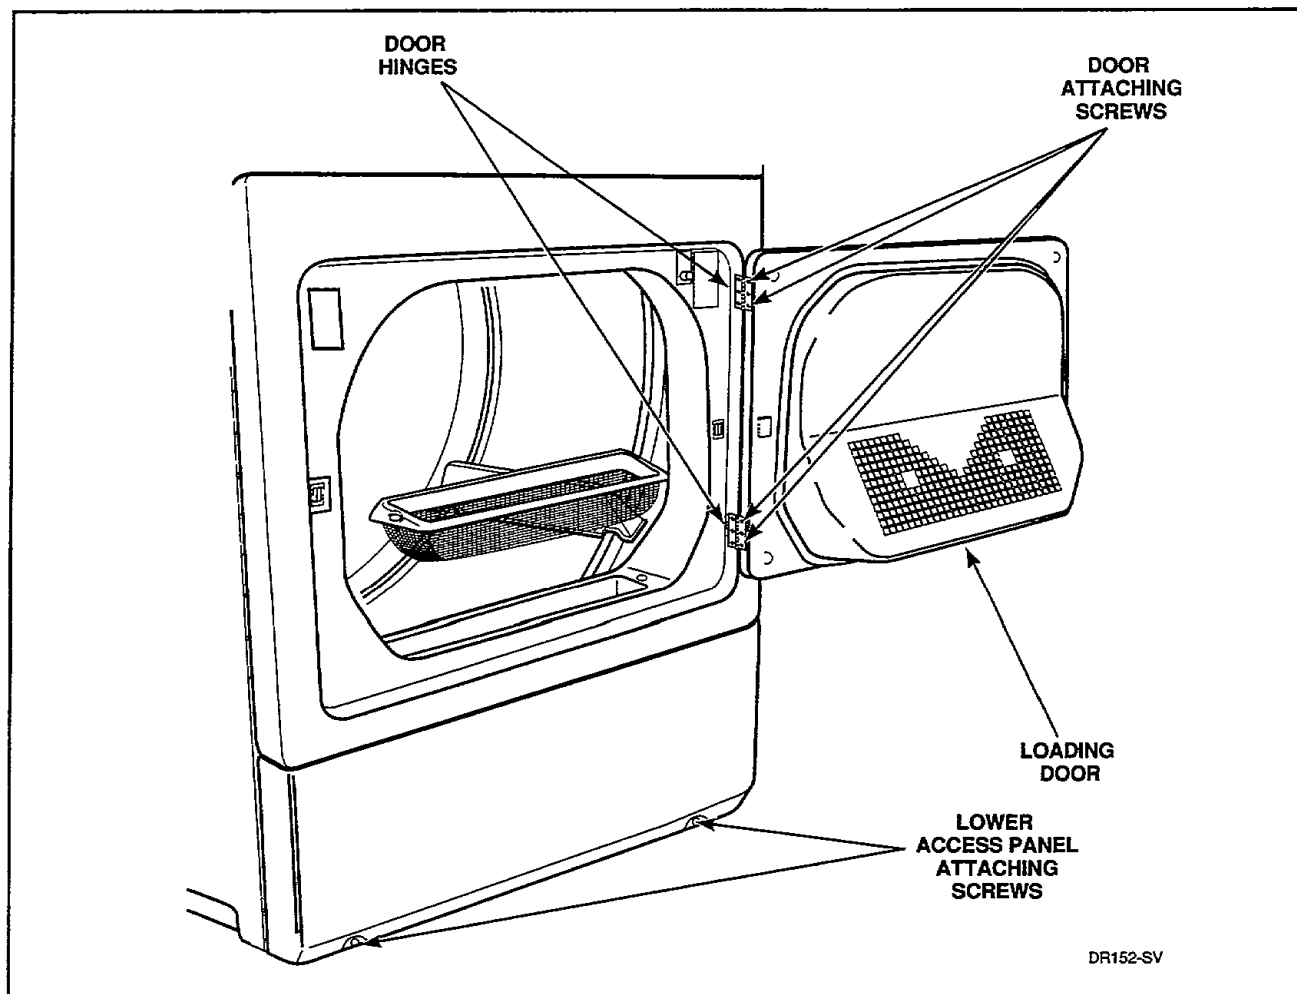
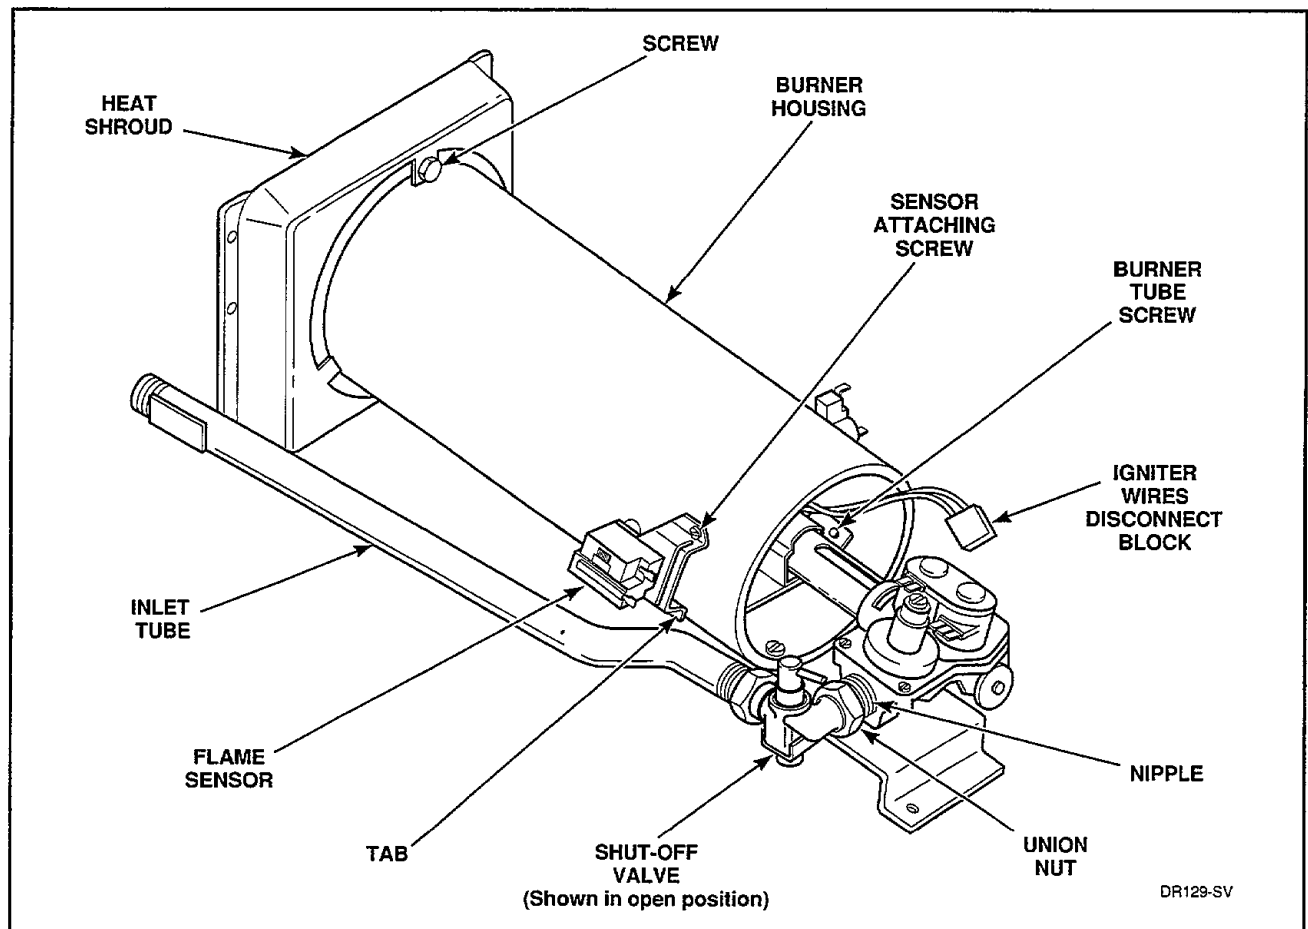

Figure 20
Figure 21
- Open loading door and, while supporting door, remove four screws holding door assembly and hinges to front panel, *Figure 20*.
- Remove four screws holding hinges to loading door, *Figure 20*.
- (1) While supporting the lower access panel, remove two screws from bottom edge of lower access panel, *Figure 20*.
- (2) Gently lower the access panel to disengage guide lugs from bottom edge of front panel.
- (3) Close gas shut-off valve, disconnect igniter wires at disconnect blocks, sensor wires from flame sensor terminals, and wires from gas valve coils at the quick disconnect blocks, *Figure 21*.
- (4) Disconnect gas shut-off valve from gas valve at the union nut, *Figure 21*.
- (5) Remove two screws holding valve and mounting bracket to base, *Figure 21*.
- (6) Lift gas valve and mounting bracket from base, *Figure 21*.
- (2) Gently move burner tube toward rear of dryer to disengage tab from slot on left side of burner housing, *Figure 21*.
- (3) Carefully rotate burner tube and igniter **counterclockwise** so tab is at 8 o'clock position.
- (4) Move air shutter end of burner tube slightly to right and **CAREFULLY** remove burner tube and igniter assembly out through front of dryer.
- (3) Remove wires from sensor terminals, *Figure 21*.
- (4) Remove screw holding sensor to burner housing, *Figure 21*.
- While supporting the lower access panel, remove two screws from bottom edge of lower access panel, *Figure 20*.
- Disconnect igniter wires at disconnect blocks, sensor wires from flame sensor terminals, and wires from gas valve coils at the quick disconnect blocks, *Figure 21*.
- Gently move burner tube toward rear of dryer to disengage tab from slot on left side of burner housing, *Figure 21*.
- Remove screw holding burner housing to heat shroud, *Figure 21*.